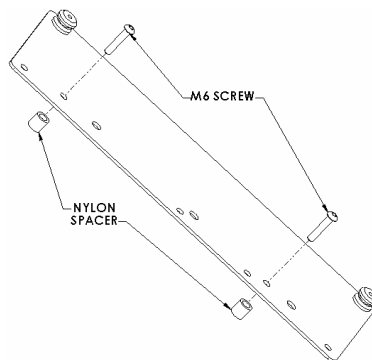
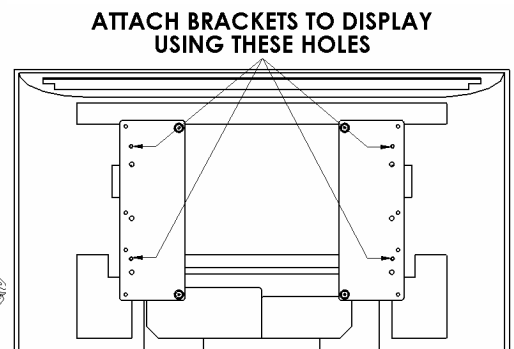

Figure 4
Figure 5
2. Place Nylon spacers on mounting holes, aligning hole pattern of the brackets with the pattern on the back of the display (see Figure 4 & Figure 5).